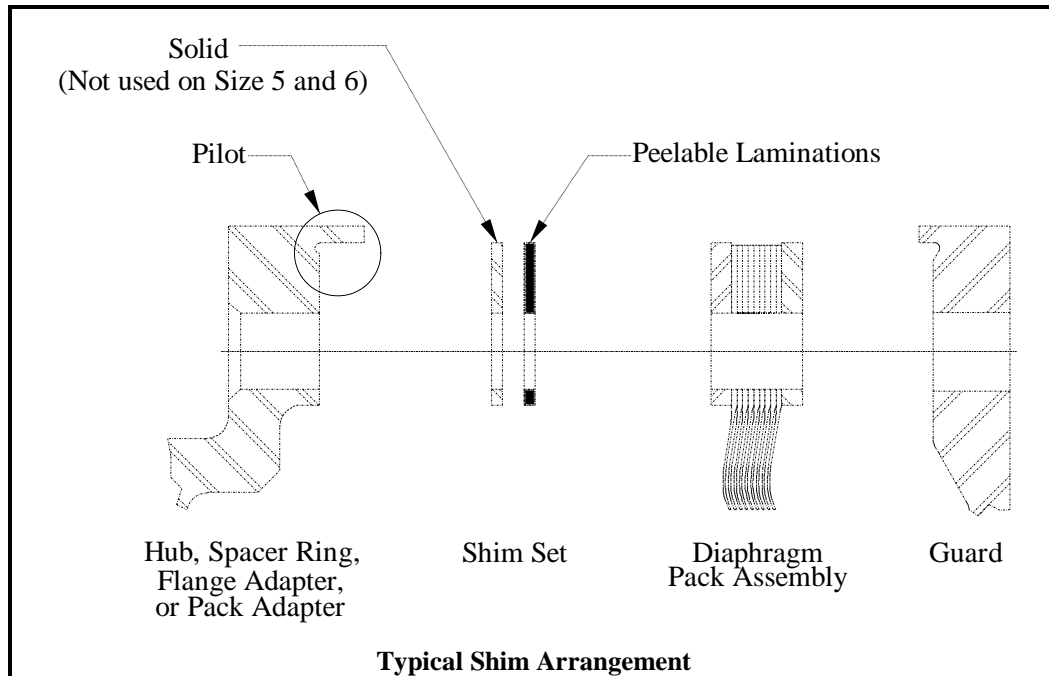
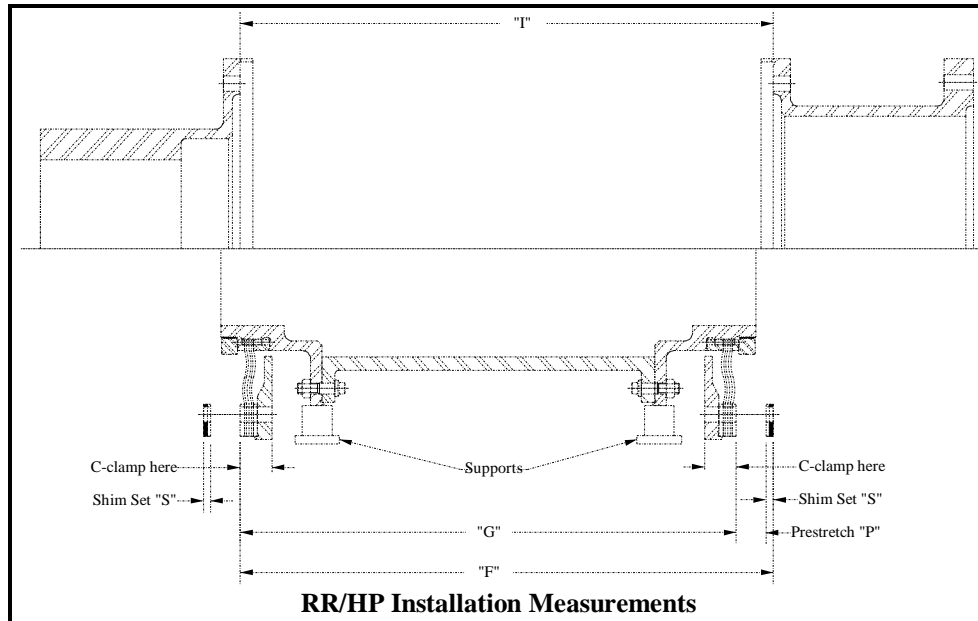

Figure 4-6
Figure 4-7
Shims are provided to adjust the length of the coupling at installation to accommodate variations in flange-to-flange dimensions ("I" dimension as shown in Figure 4-7 through 4-10) within the limits specified on the Ameridrives sales drawing. The coupling spacer is intentionally made short by the thickness of one shim set. This allows for flange-to-flange adjustability equivalent to the thickness of one shim set in either direction. Two shim sets are normally provided (see Figure 4-6). Refer to the Ameridrives Sales Drawing for location and quantity of shims.
- 4.4.1.1 Measure and record, on the worksheet in Paragraph 4.4.5, the installation Length "I" (distance between mounted flange faces) at four (4) places approximately 90° apart (see Figure 4-7).
- 4.4.1.2 Assemble the diaphragm pack sub-assemblies onto the spacer taking care to re-align the matchmarks and end identification letters. Install a minimum of four (4) bolts approximately 90° apart through each flange and tighten the bolts evenly in a criss-cross pattern to seat the pilots. Support as shown in Figure 4-7.
- 4.4.1.4 Measure and record, on the worksheet in Paragraph 4.4.5, the coupling free length "G" (distance between diaphragm pack sub-assembly outer diaphragm pack faces) at four (4) places approximately 90° apart. It is recommended that C-clamps be used to compress the diaphragm pack at the location the measurements are being taken (see Figure 4-7).